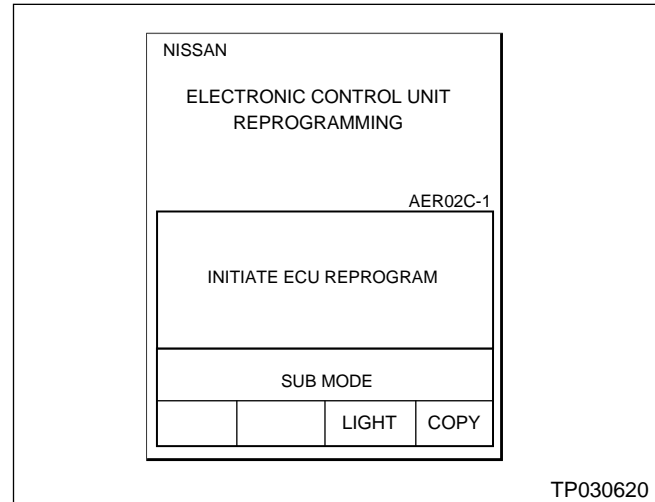

Figure 4
1. Press **SUB MODE** (see Figure 4) then: